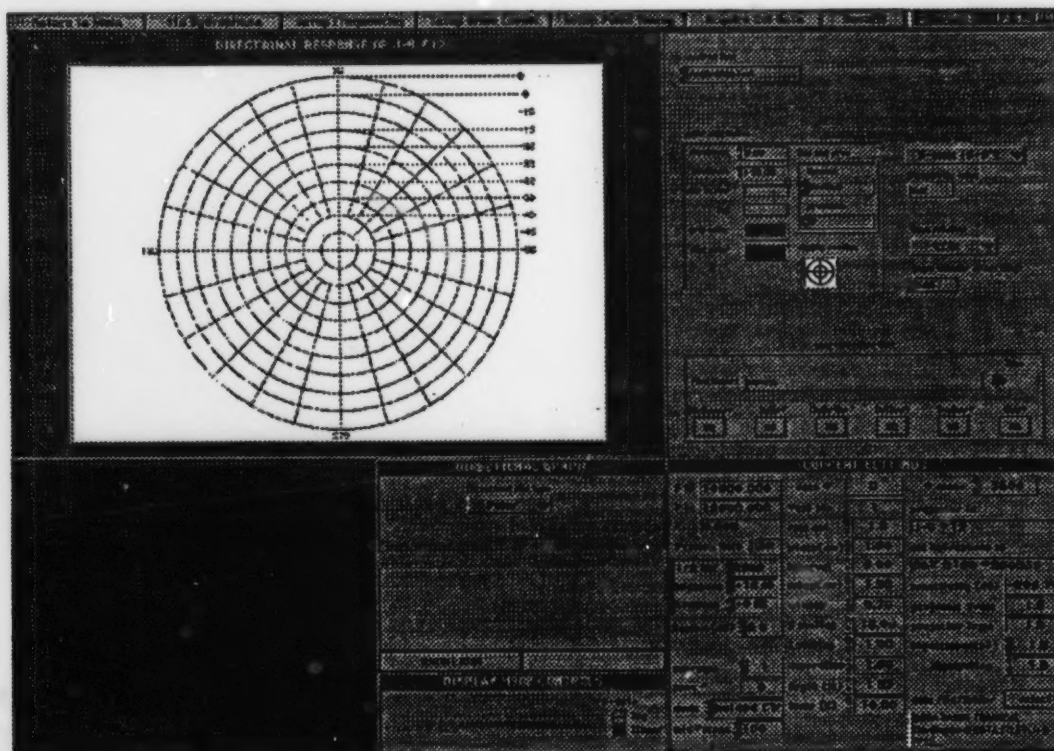

Figure 8-1 Directivity Response front panel
- Figure 8-1 Directivity Response front panel / 3
You activate the directivity response calibration procedure from the *TRANSCAL* main panel. The front panel will startup as shown in Figure 8-1.